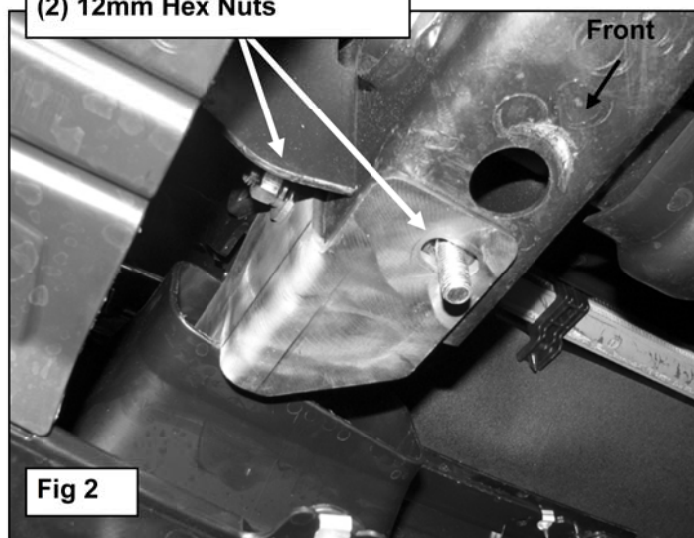

Fig 2
- Select the driver side Frame Bracket. Refer to illustration above for bracket configuration. Position the Frame Bracket onto the outside of the frame rail, **(Figure 2)**. Secure the Bracket to the frame channel using the included (2) 12mm x 35mm Hex Bolts, (4) 12mm Flat Washers, (2) 12mm Lock Washers and (2) 12mm Hex Nuts, **(Figure 2)**. Tighten hardware at this time.